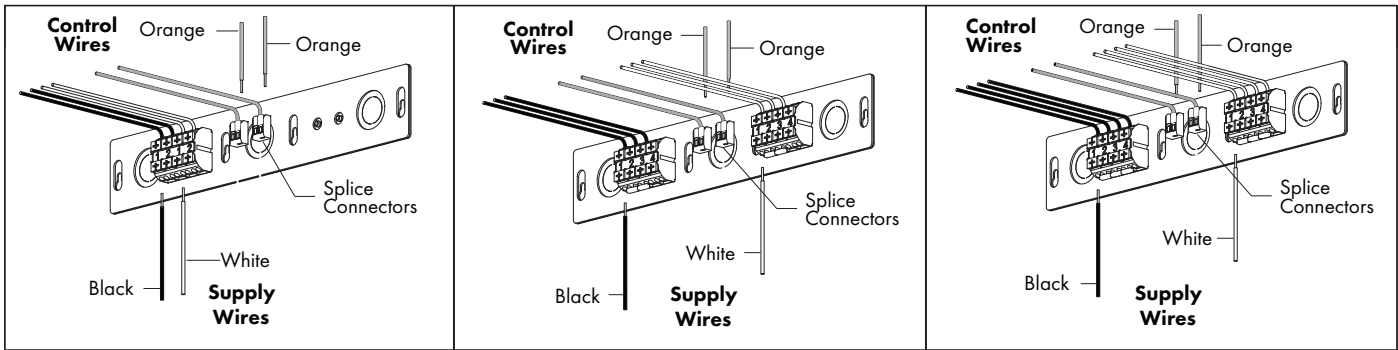

FIG 9.2 Attach Supply & Control Wires
2. Make wire connections noting individual lamp circuit numbers – FIG 9.2.